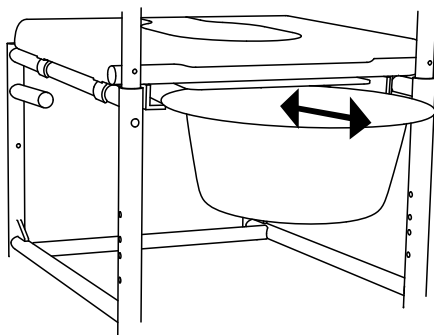

Fig.17
1. To empty the pail, pull it out towards the rear. (Fig. 17)
1. First, remove the pail by pulling it out towards the rear (Fig. 17).